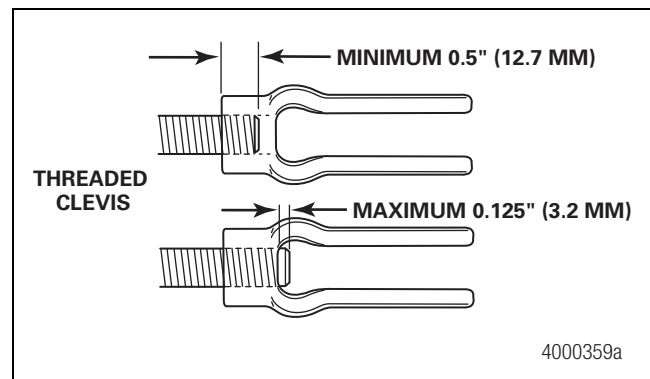

Figure 5.22
5. Verify that the thread engagement between the clevis and push rod is 0.5-0.625-inch (12.7-15.9 mm). Figure 5.22.